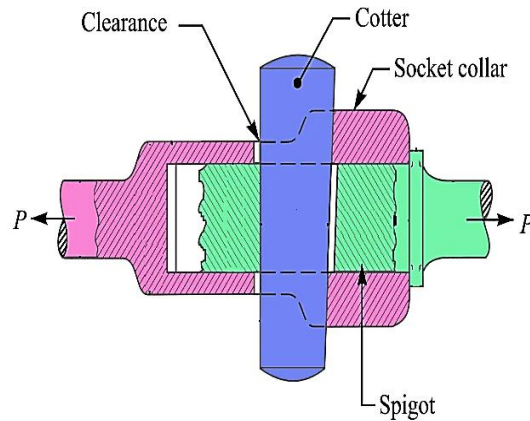

Fig. 3.30: Socket and Spigot Cotter Joint
1. Socket and Spigot Cotter Joint (Fig. 3.30).